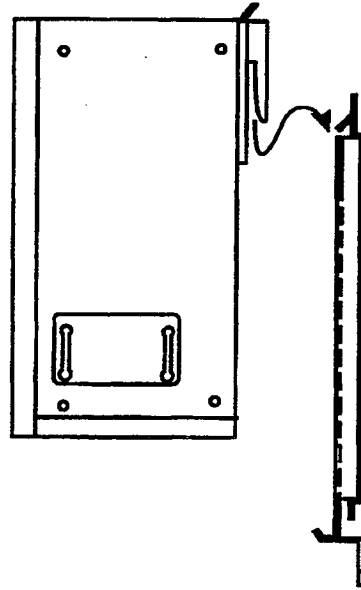

Figure 2-9 Attaching the KSU to the Wall Mount Bracket
2. Holding the Basic ESF-H-10 KSU, lower the two hooks that protrude from the rear of the KSU over the wall mount bracket. Refer to Figure 2-9 - Attaching the KSU to the Wall Mount Bracket.